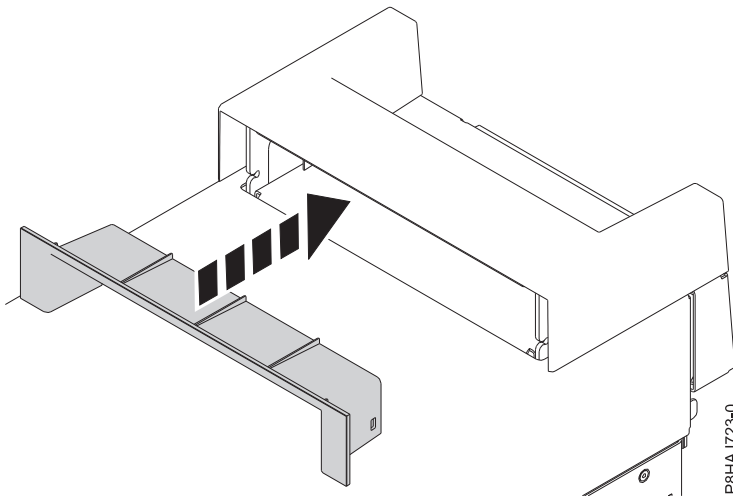

Figure 17. Inserting the piece within the handle cover on an 8286-41A stand-alone system
2. Insert the piece within the handle cover by pushing it firmly into the handle cover as shown in Figure 17.